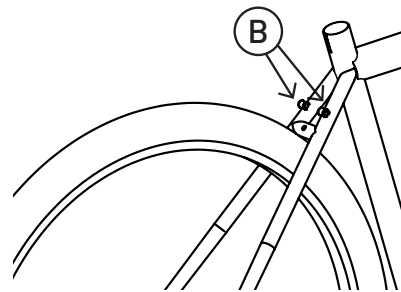
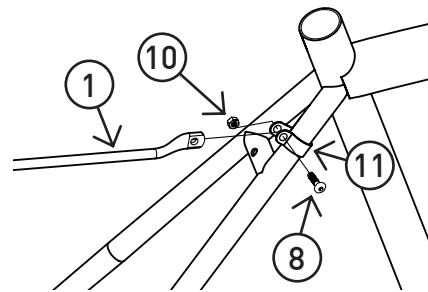

Figure 4a
Figure 4b
Always use the threaded mounts if possible. If your bicycle does not have any mounting points at B (Figure 4a), then you can use the band clamps (item 11) provided with the Moose Rack to attach the stays (Figure 4b).